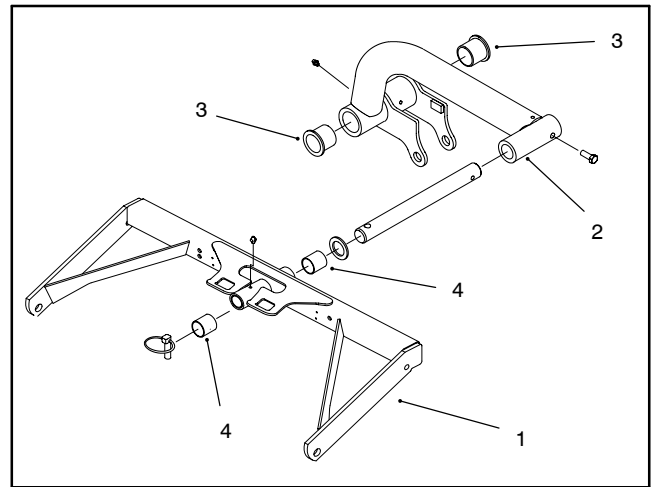

Figure 12
7. Inspect bushings in lift arm and carrier frame (Fig 12). If bushings are worn or damaged, replace bushings.